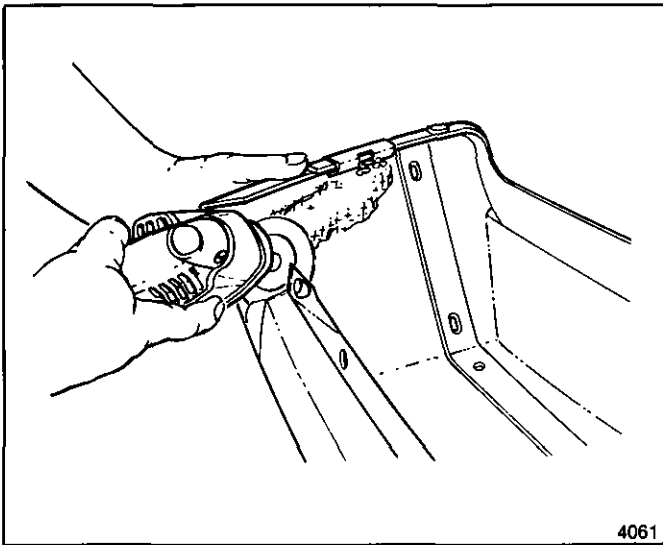

Fig. 1-20-Discing Back Side of Damage
- Clean the underside of the repair area as in step 1a. Sand each side of the break with a #50 grit disc. (Fig. 1-20).